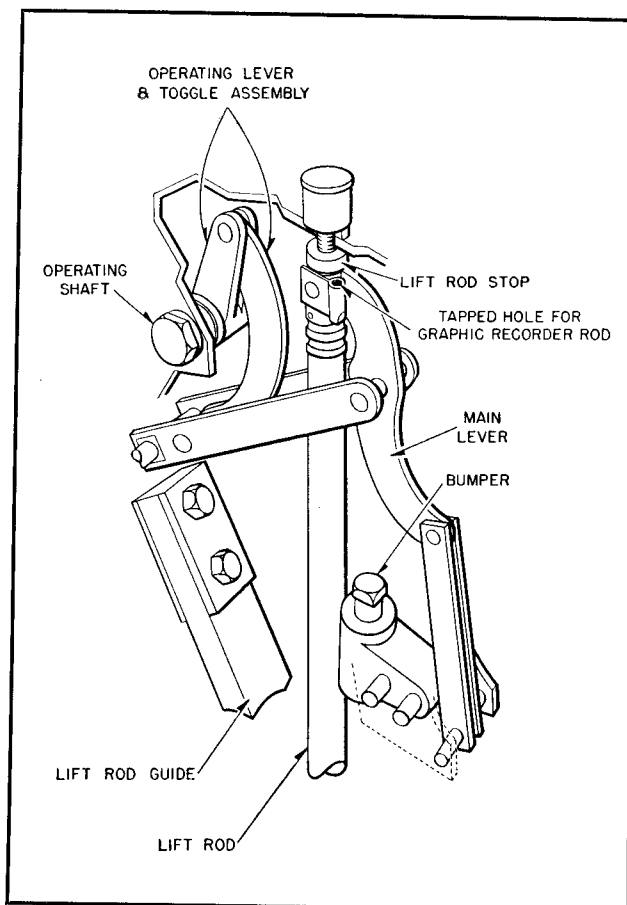

FIG. 3. Pole Unit Lever Assembly of the Type GO-4-A, 2-A and 3-B Breakers
Note: An opening, adjacent to the lift rod stop, is provided in the top of each pole unit lever box. For operating a graphic recorder, a rod is inserted through this opening and screwed into a 10-32 tapped hole in the top of the lift rod. (See Figures 3, 4 and 5.)
4. The pole unit lever assemblies. These are actuated by levers on operating shafts on which the above mentioned pull rods are mounted. (See Figures 3, 4 and 5.)